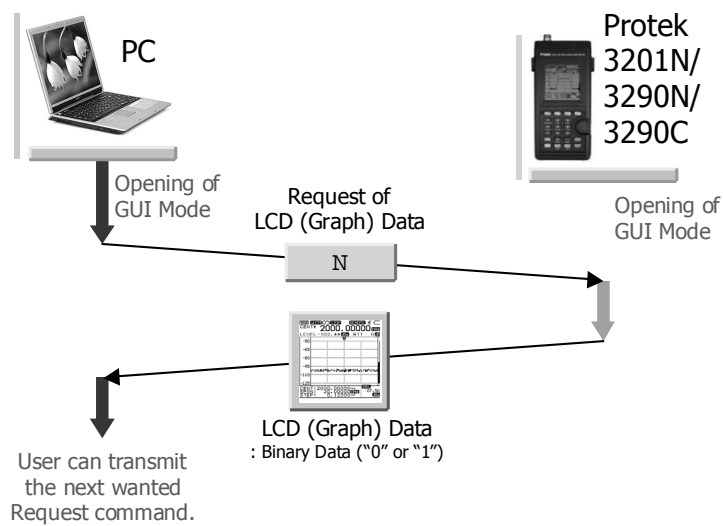

Figure 5.12. “LCD Request” Protocol
- 1) The data of displayed graph on the instrument can be asked or received. Those data are mono pixel data and user can use this received data to save or use by bitmap data of GUI software. Refer Figure 5.12.
refer Figure 5.12 if need more detail description.